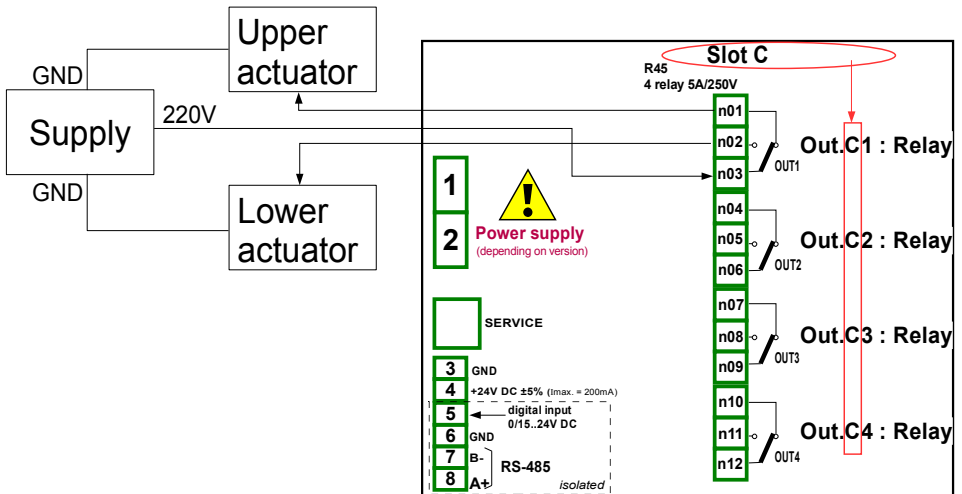

Fig. 7.67. Schematic diagram for the **R45** module
Before connecting relay to the device, user should configure the device, and then connect them as it is shown in **Fig. 7.67** (see **Appendix 8.7. R45, R81-relay modules**). After setting the configuration of the physical inputs can configure the input channel to read the output value.
- **Source** parameter set as **Out. C1: Relay** (see the connection in **Fig. 7.67**),